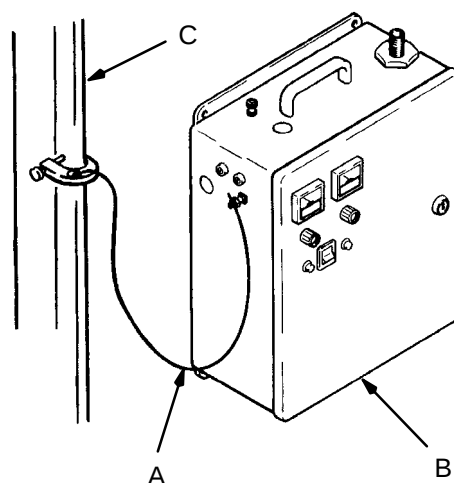

Fig 1
Connect a ground wire (A) from the power supply case (B) to a true earth ground (C). See Fig 1.